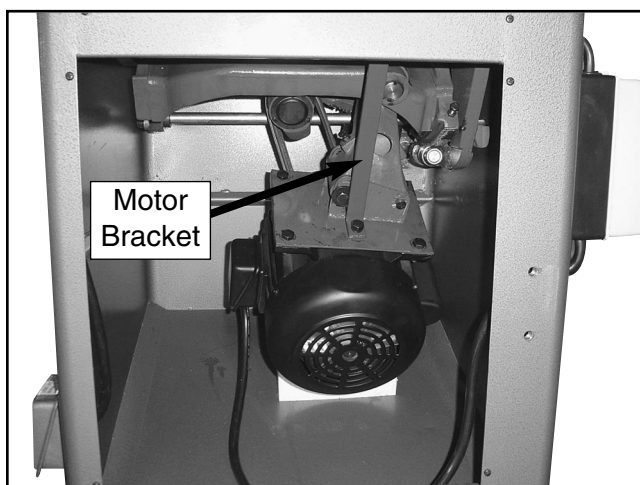

Figure 12. Remove motor bracket.
2. Remove the red motor bracket shown in **Figure 12**. This bracket is designed to protect the motor assembly during shipping.